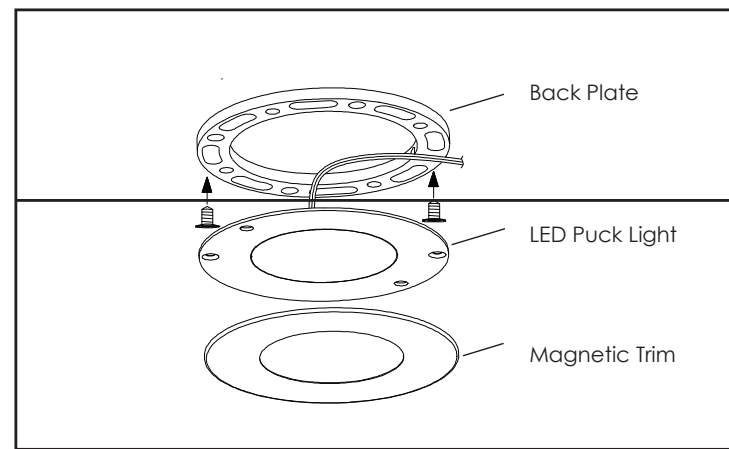

Figure 1
4. Screw the Back Plate onto the determined location using the provided screws. (Fig.1)